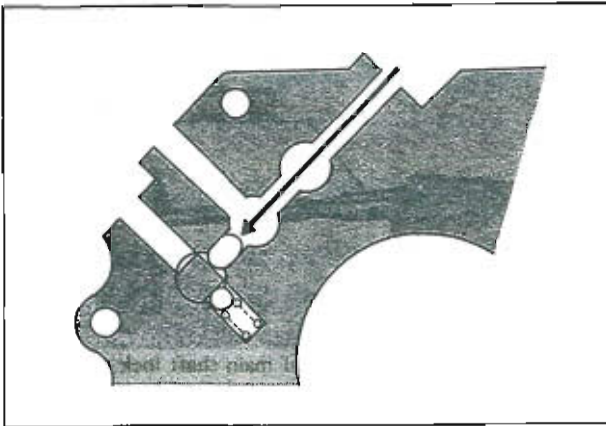

Fig. 7-25 Position of interlock pin
2. Place the reverse shift rod into neutral position and position the interlock pin in the bearing housing as shown in Fig. 7-25.